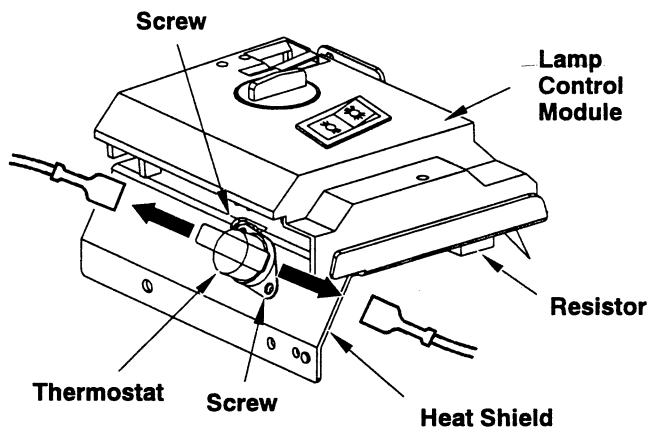

Figure 5-25. Lamp Control Module
5. Locate the thermostat. It is attached to the heat shield under the lamp control module. Figure 5-25.
5. Locate the resistor. It is attached to the heat shield under the lamp control module. Figure 5-25.